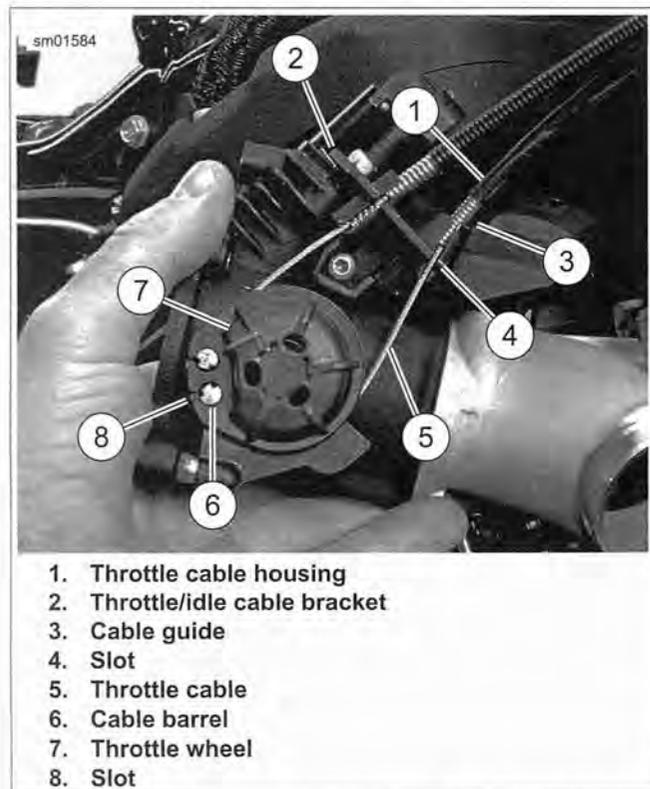
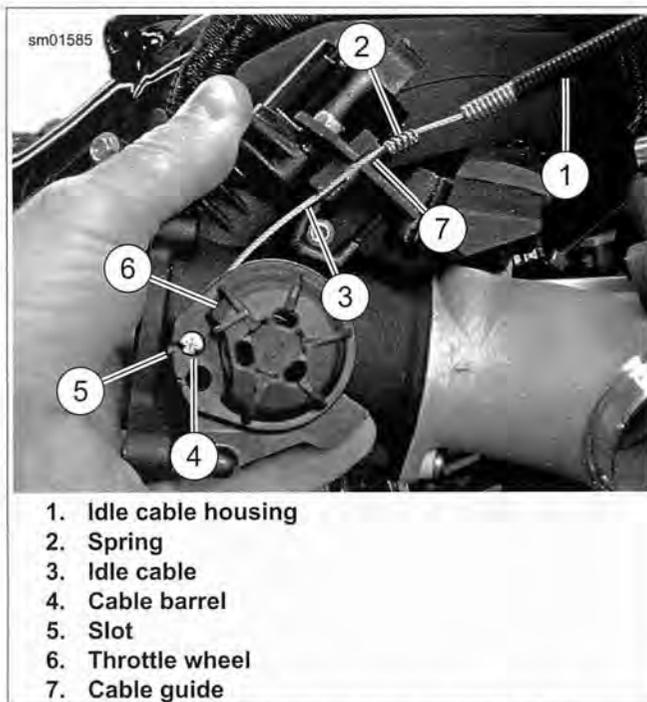

Figure 4-35. Removing/Installing Throttle Cable
Figure 4-36. Removing/Installing Idle Cable
15. See Figure 4-35. Remove throttle cable (5) from throttle wheel (7)
- a. Lift throttle cable housing (1) up out of cable guide (3) in throttle/idle cable bracket (2).
- b. Slide throttle cable (5) out through slot (4) in cable guide.
- c. Unwind throttle cable from groove in throttle wheel (7).
- d. Slide cable out through slot (8) and remove throttle cable barrel (6) from throttle wheel.
16. See Figure 4-36. In a similar fashion, remove idle cable (3) from throttle wheel (6):
- a. Lift idle cable housing (1) and spring (2) up out of cable guide (7) in throttle/idle cable bracket.
- b. Slide idle cable (3) out through slot in cable guide.
- c. Unwind idle cable from groove in throttle wheel (6).
- d. Slide cable out through slot (5) and remove idle cable barrel (4) from throttle wheel.
10. See Figure 4-36. Install idle cable barrel (4) into throttle wheel (6). Slide idle cable (3) through slot (5) and wind around groove in throttle wheel.
11. Pull cable through slot in cable guide (7). Slide spring (2) and end of idle cable housing (1) down into cable guide.
12. See Figure 4-35. Install throttle cable barrel (6) into throttle wheel (7). Slide throttle cable through slot (8) and wind around groove in throttle wheel.
13. Pull cable through slot (4) in cable guide (3). Slide end of throttle cable housing (1) down into cable guide.